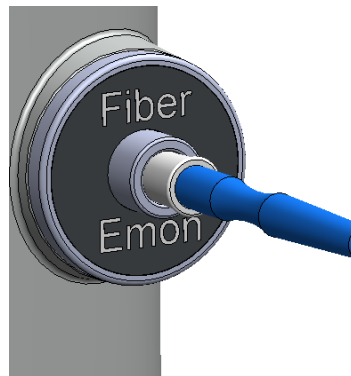

Fig. 4-9: Inserted fiber with sterile adapter
- The fiber with the sterile adapter is to be inserted into the intake of the energy monitor on the front panel of the laser as far as possible (Fig. 4-9).